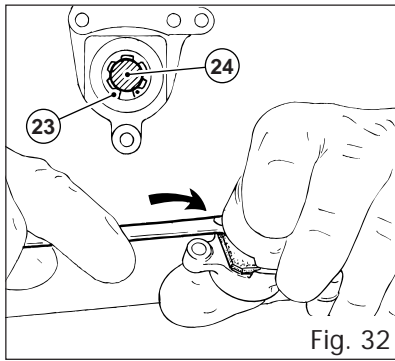

Fig. 32
- using a brush and/or compressed air, clean the inner cavity of the pistons (22) and the snapping (23) to eliminate any deposits and traces of dirt;
- insert the new pads starting from the one on the bleeder valve side (18). Center the rear of the pad (20) in the snap ring (23) and use a wide blade screwdriver to press on the entire braking surface until you hear the characteristic metallic snap (see fig 32);